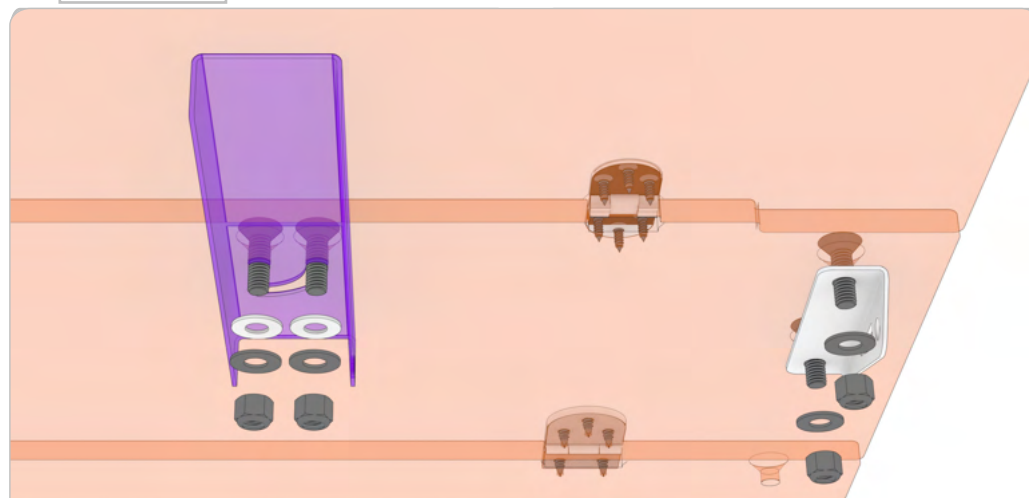

FIG 17
**2.6 Attach Strut and Support Brackets to Table Top:** Fasten Left and Right Strut Brackets and Left and Right Support Brackets to Folding Table Top using (2ea) 3/8-16 x 1.25 Hex Drive Flat Head Screws, 3/8" Plastic Washers, Flat Washers and Nylon Locknuts [in that order, FIG 17].